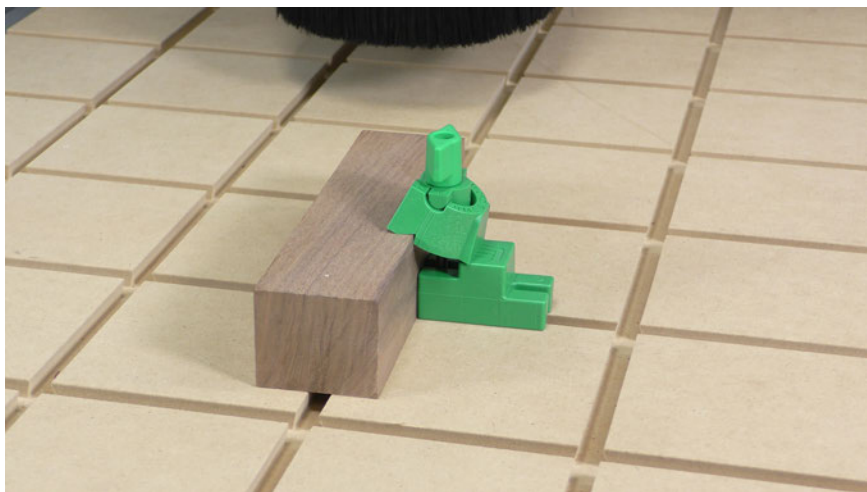

Fig 8e - U-Pad Optional Setup
- 8.8.** For holding taller stock, The U-Pad can be used with MatchFit Track Nuts and a section of 10-32 threaded rod (available separately). The center section of the riser block 4C supports the U-Pad for parts up to 1-1/2" (38mm). The split legs of the riser block 4C pass the threaded rod to support the dovetail groove. (Fig 8e)